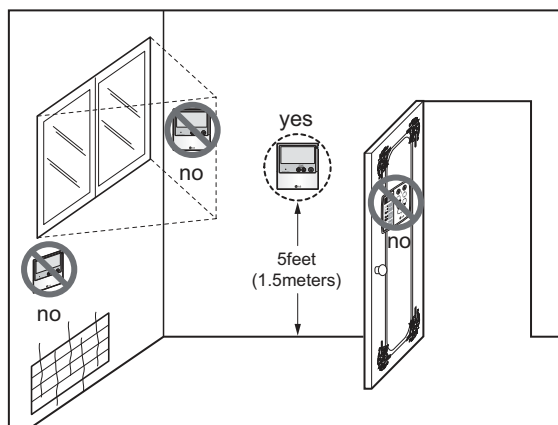

Fig.1 Typical locations for remote controller
- This remote controller is equipped with a seven segment LED. display. For proper display of the remote controller LED's, the remote controller should be installed properly as shown in Fig.1. (The standard height is 1.2~1.5 m from floor level.)